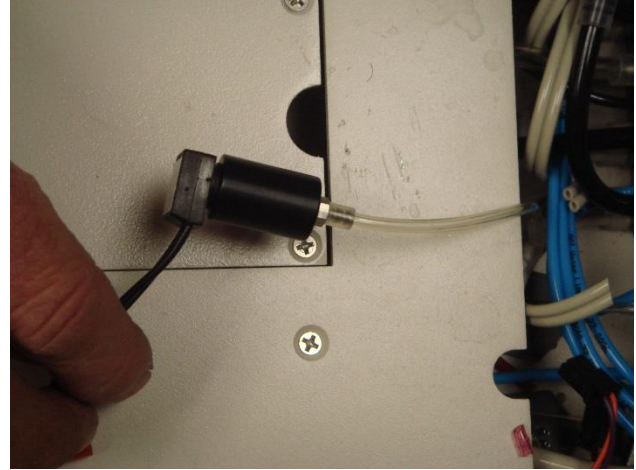

Fig. 2
4. Locate Air Electric (A/E) switch inside the system. (Fig. 1, Fig. 2)